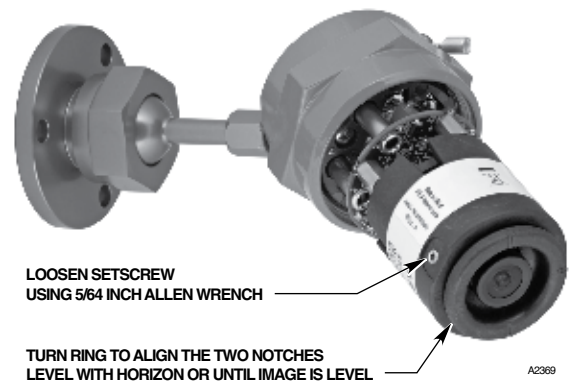

Figure 7—xWatch Camera Module
2. Loosen the setscrew on the side of the xWatch module. See Figure 7.